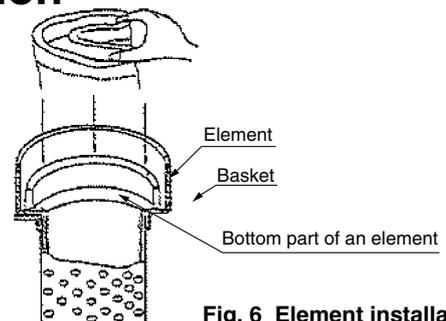

Fig. 6 Element installation
1. Pull the cloth handle of a new element towards the center and fold the edge of the element. Then place it inside of the basket. Thoroughly push the edge of the element to the bottom plate's flange surface of the basket. (Refer to Fig. 6)